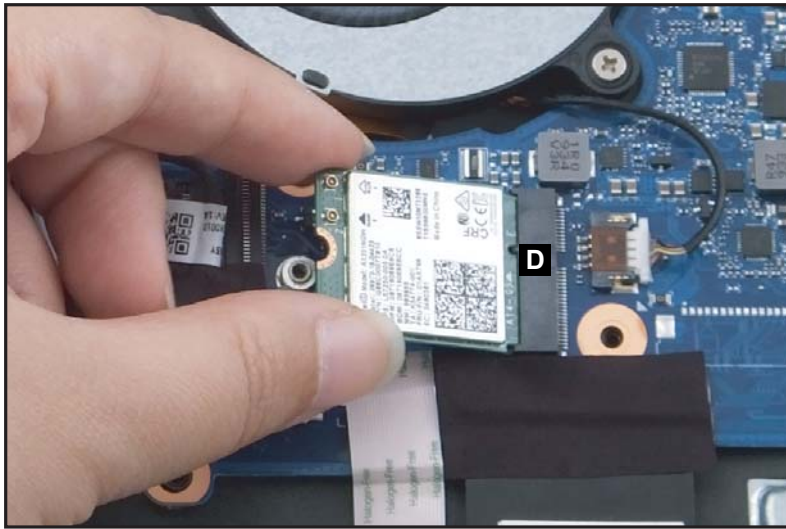

Figure 1-11. WLAN Module Removal
4. Remove the WLAN module from the mainboard connector (D) (Figure 1-11).